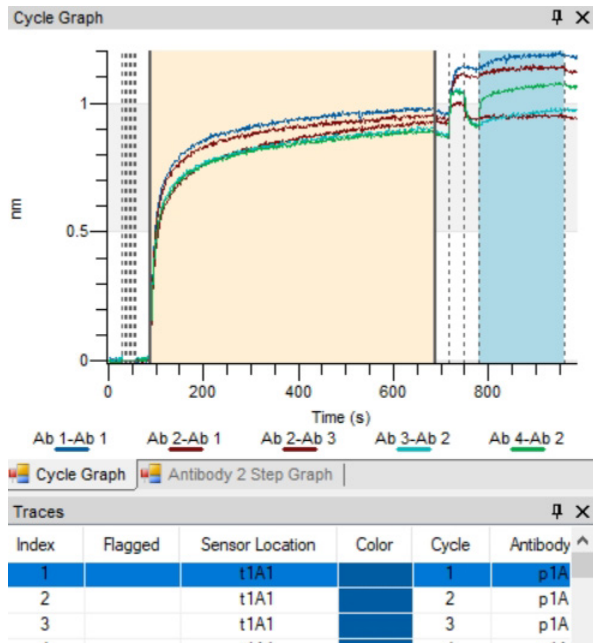

Figure 7-4: Overlaying Multiple Sensorgrams
- To overlay multiple sensorgrams, press and hold **Ctrl**, then select the biosensor rows in the table you want to overlay (Figure 7-4).